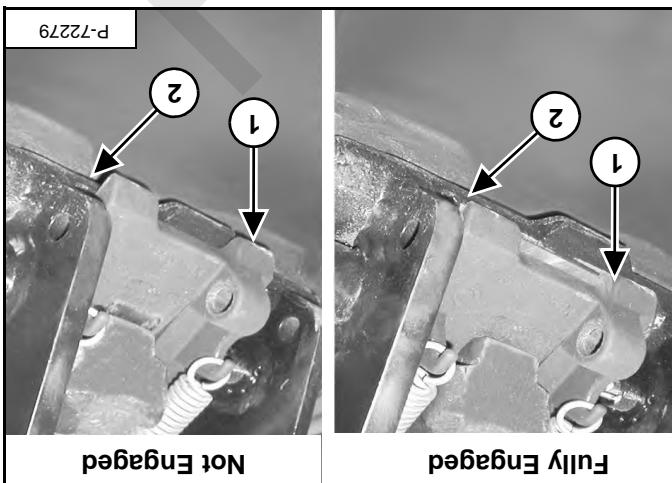

Figure 104
Visually inspect the quick coupler latch (item 1) to the bucket mount (item 2) [Figure 104]. The latch must be fully engaged.